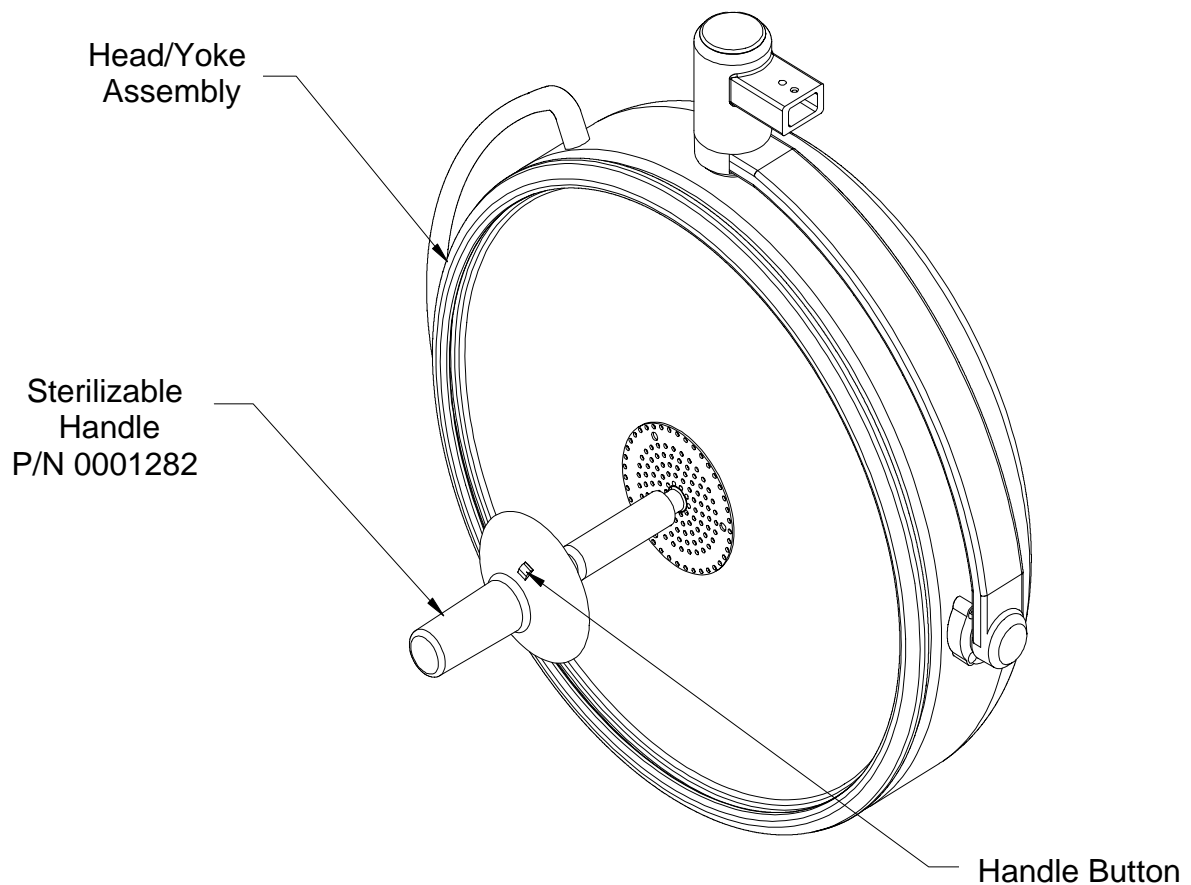

FIGURE 39: Handle Sterilization
- Remove sterilizable handle by pressing the button near the base of the handle and pulling the handle off the handle post (See figure 39).